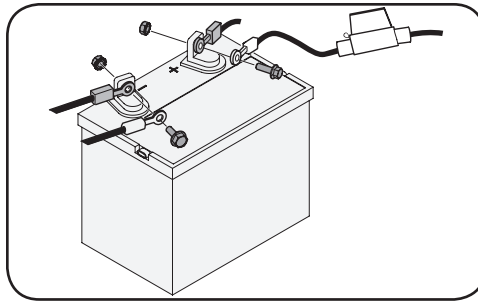

Figure 2-19
10. Connect the battery harness clips to the battery terminals. Remove the plastic cover, if present from the positive battery terminal and connect the red wire to the positive terminal, then connect the black wire to the negative terminal. See Figure 2-19.